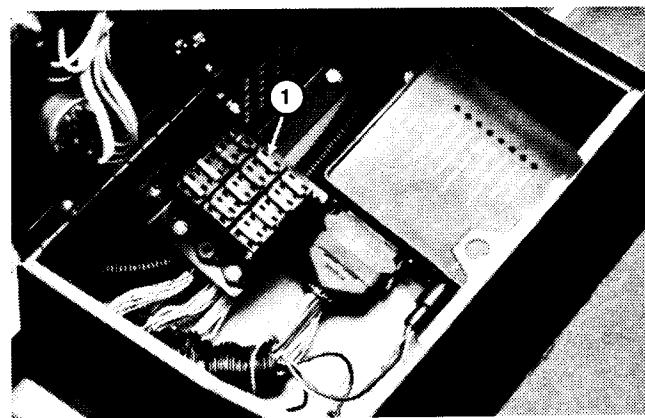

Figure 35
The electrical system is protected by twelve (12) fuses located under the control panel to the operator's right (Fig. 35).